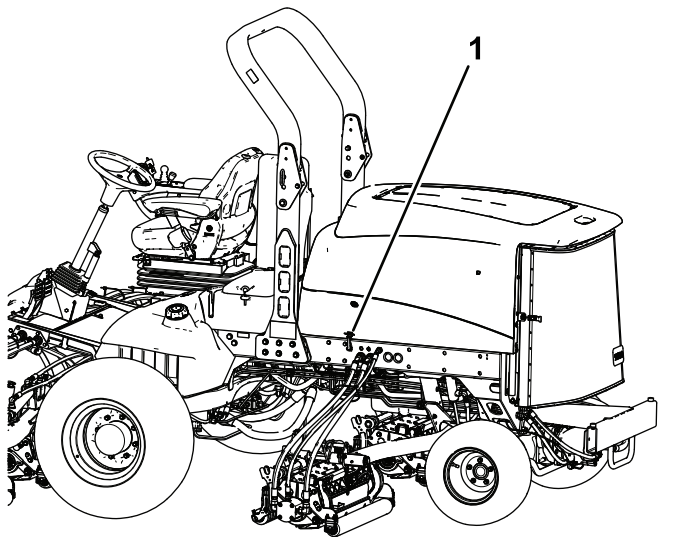

Figure 78
1. Release the hood latches (Figure 78) and pivot open the hood.